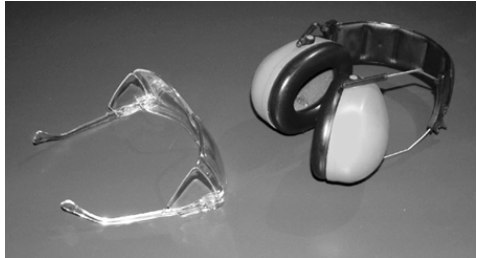

Figure 1
Safety glasses with rigid side shields must be worn by the operator of this driver as well as all others in the work area. See Figure 1.
2. **Wear ear protection** to avoid possible hearing loss. See Figure 1.